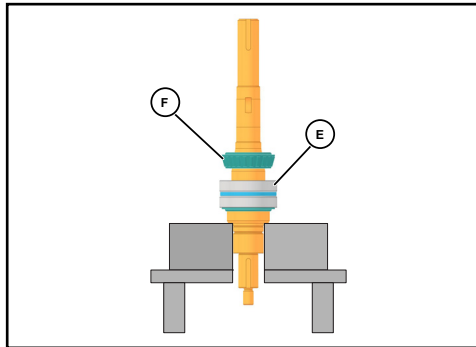

Figure 50 - Upper Cup & Upper Cone
7. Place the upper cup (Figure 50, item E) on top of the outer spacer.
8. Lubricate the remaining upper cone and roller assembly (Figure 50, item F) with oil or grease and slip it over the shaft with the roller radius facing up. Press it onto the shaft and into the upper cup.